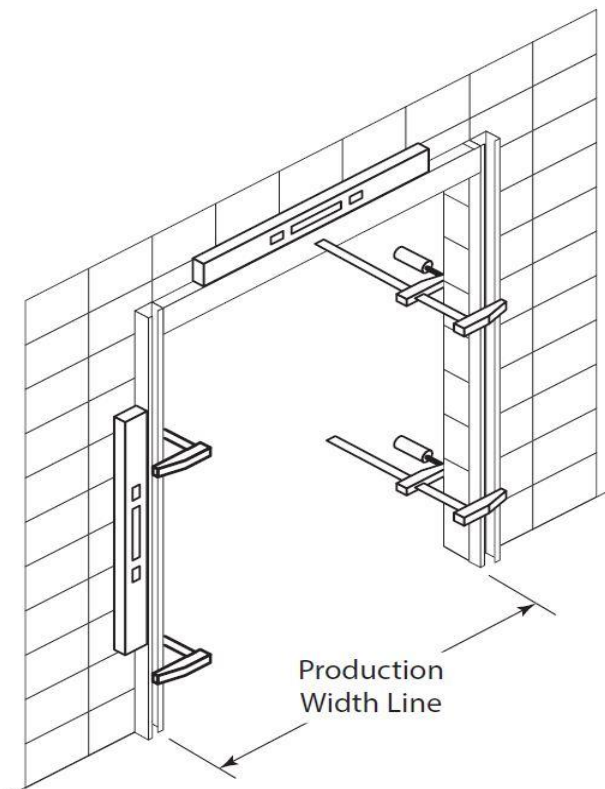

Figure 10
12. Lift both side frames and spreader bar at the same time. Stand the side frames on the floor tight against the wall. Align the inside edge of each side frame with the production width line laid out earlier on the floor (Figure 10).
14. Once the side frames are properly positioned, hold them in place with four bar clamps. Use one clamp at the top and one clamp at the bottom on both side frames. This will hold them securely in place while you are drilling and fastening them to the wall (Figure 10).